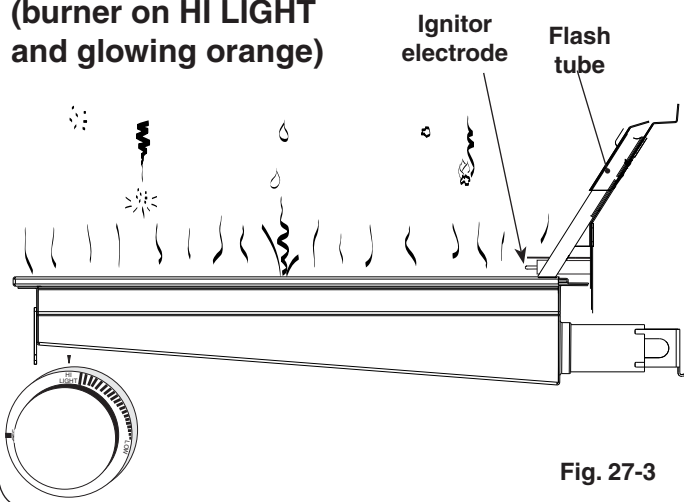

Fig. 27-3
- **DO NOT place food on the cooking grid until the IR burner glows orange (Fig. 27-3).** Drippings are heated and evaporate instead of sticking to and impairing burner function.